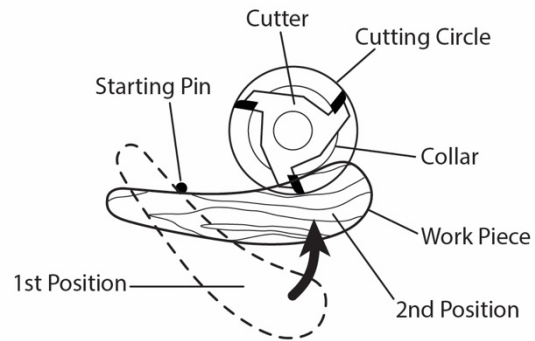

Figure 20
1. Place work piece in the first position using the starting pin as support (see Figure 20). Swing the work into the cutter as shown in the second position. The work is now supported by the collar and starting pin.